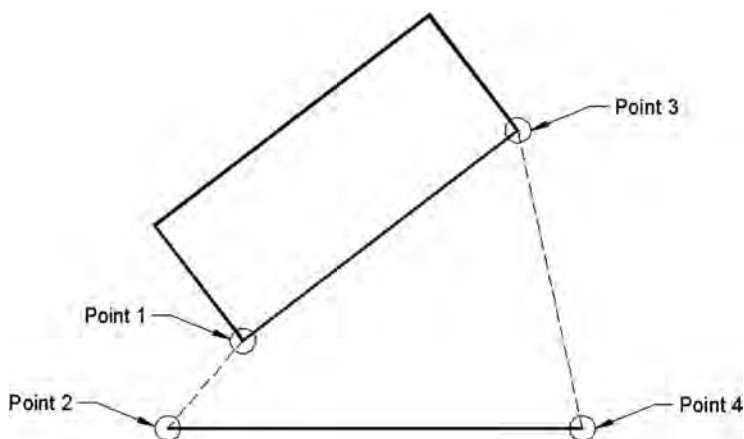

FIGURE 15.2
- Step 3.** Pick the lower left corner of the rectangle using the `ENDpoint OSNAP` (point 1 in Figure 15.2).
- Step 4.** Pick the left point of the line using the `ENDpoint OSNAP` (point 2 in Figure 15.2).
- Step 5.** Pick the lower right corner of the rectangle using the `ENDpoint OSNAP` (point 3 in Figure 15.2).
Step 6. Pick the right point of the line using the ENDpoint OSNAP (point 4 in Figure 15.2).